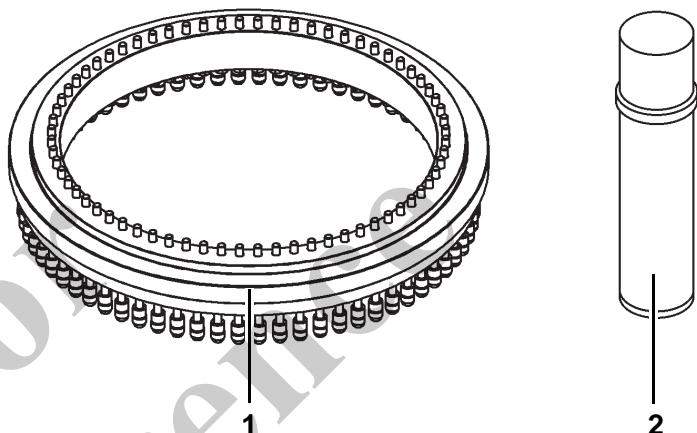

Fig. 33 Lubricate slewing ring.
| 2 | Thoroughly clean gearing (1) in Fig. 33. |
| 4 | Spray gearing from an approximately 30 cm distance with MANITOWOC gear spray (2) in Fig. 33. |